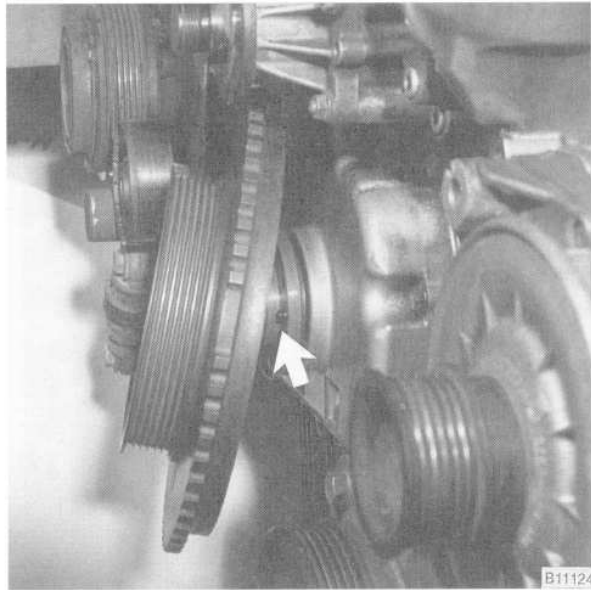

Fig. 10. Vibration damper with drive belt pulley being removed. Note hub locating dowel (arrow).
16. Remove the vibration damper mounting bolts and remove the vibration damper and pulley. See Fig. 10.